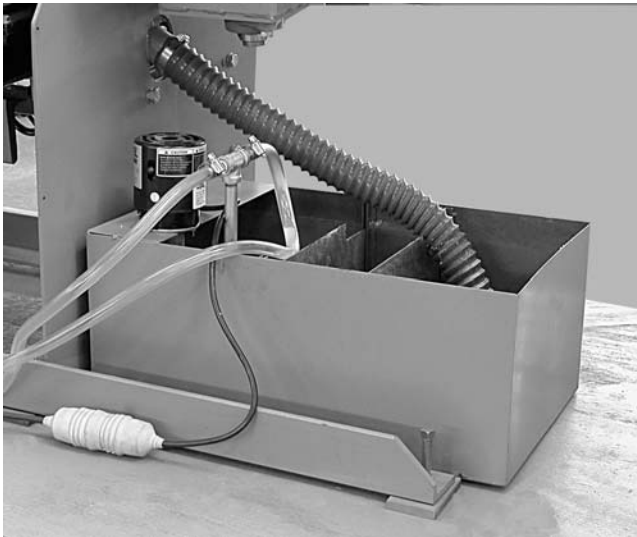

Figure 15
5. Position recirculating pump and connect the coolant hose, power cord and coolant return drain hose as shown in Figure 15.